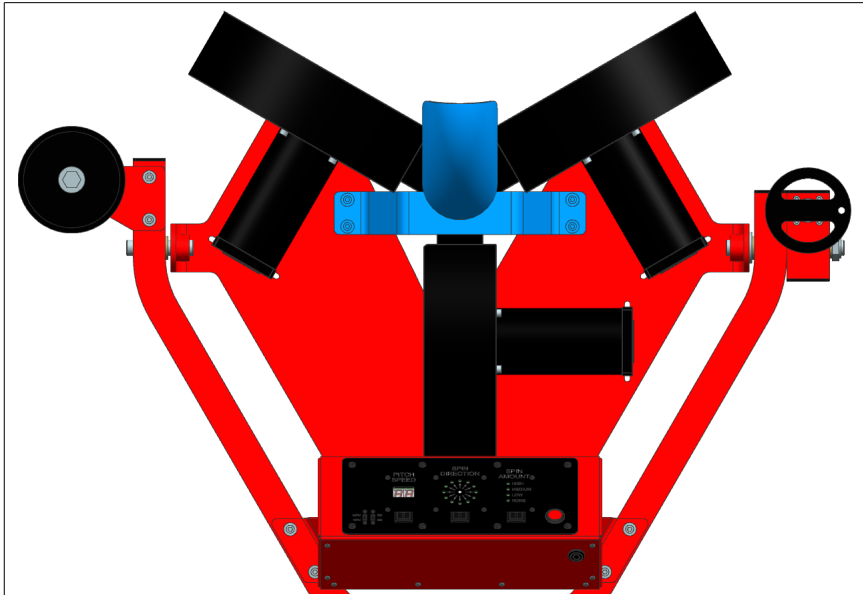

Figure 1: Ball feed ramp installation. Ramp shown in blue for clarity.
BALL FEED RAMP Use the 3" ramp for baseballs, tennis balls, or cricket balls, and the 4" ramp for softballs. The ramp is installed using (4) $\frac{1}{4}$ x 1" socket (Allen) head cap screws, washers, and hex nuts. See Figure 1. The hardware is packaged with the feed ramp.